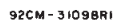

Fig. 1—CD4517B functional block diagram (one half).
Figure 1 is a 3D plot showing the relationship between the number of species (S) and the number of individuals (N) for 1000 random samples. The x-axis is labeled 'Number of individuals' and ranges from 0 to 1000. The y-axis is labeled 'Number of species' and ranges from 0 to 100. The z-axis represents the probability of a species being present, ranging from 0 to 1. The plot shows a positive correlation between S and N , with a fitted curve and confidence intervals. The curve indicates that as the number of individuals increases, the number of species also increases, and the probability of a species being present approaches 1.